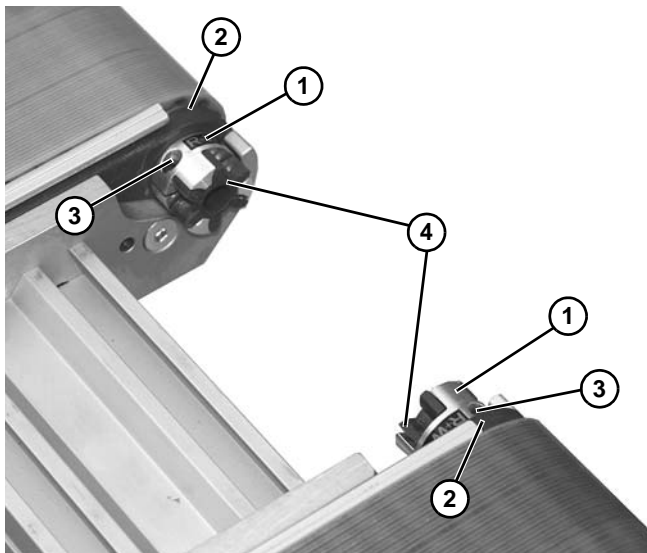

Figure 27
5. Separate and install outer portion of 3-jaw coupling (**Figure 27, item 1**) onto shaft portion of each end of conveyor.
*When securing inner portion of 3-jaw coupling (**Figure 27, item 1**), maintain 8 - 18 mm clearance from headplates (**Figure 27, item 2**).*
6. Tighten clamp screws (**Figure 27, item 3**) to 2 Nm to secure outer portion position of 3-jaw coupler.
7. Install 3-jaw spider (**Figure 27, item 4**) into each end of outer portion of 3-jaw coupling.